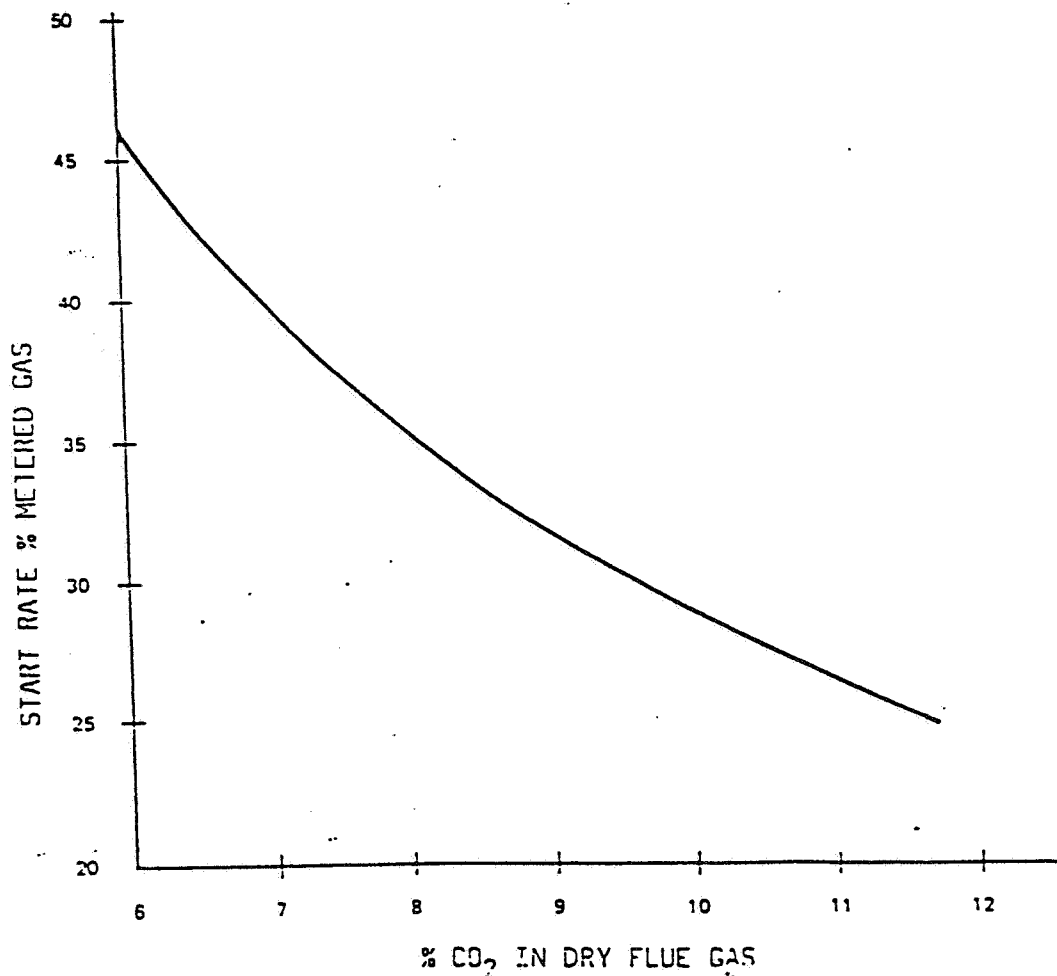

Fig. 13. Maximum Start Rate Graph.
- 17.1 Maximum start gas rate is determined as "flow measured to a maximum of 25% Stoichiometric gas rate for the proved air flow at the time of ignition". See Fig. 13.
Applying the Low fire CO2 content to Fig 13 will establish maximum permissible start rate, eg at 10% CO2 a metered start gas rate of 29% of the Low Flame gas rate is permissible.